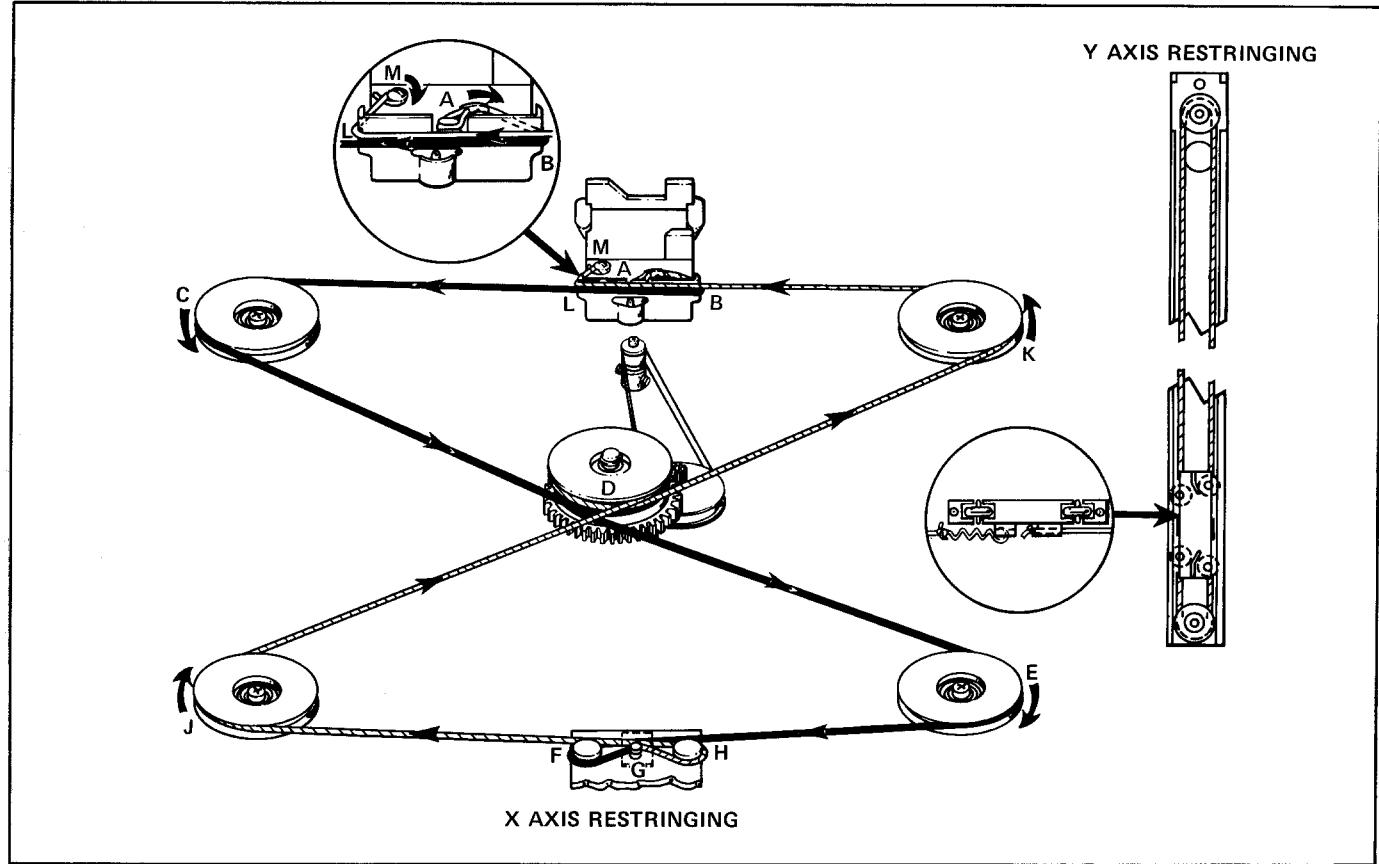

FIGURE 3-10. X AND Y AXES RESTRINGING
3-27. RESTRINGING PROCEDURE. (Refer to Figure 3-10.)
3-31. RESTRINGING PROCEDURE. (Refer to Figure 3-10.)
b. Remove old cable and adjust bottom two pulleys (J and E, Figure 3-10) to their innermost position.